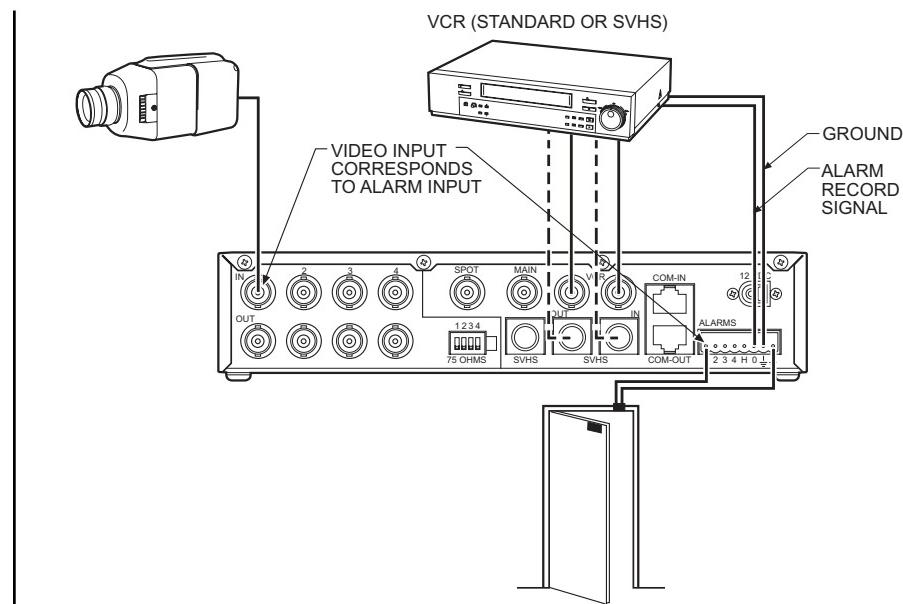

Figure 10. Alarm Wiring Example
- a. Connect the VCR's CLK output to the multiplexer head switching (H) input to synchronize camera switching.
3. Alarm recording starts and stops when there are alarms. To wire (refer to the "A" lines in Figure 10):
- a. Connect the multiplexer's TTL output relay (O) terminal to the VCR's SET IN (alarm input) or ALM IN terminal.
To wire the alarm inputs (refer to Figure 10):